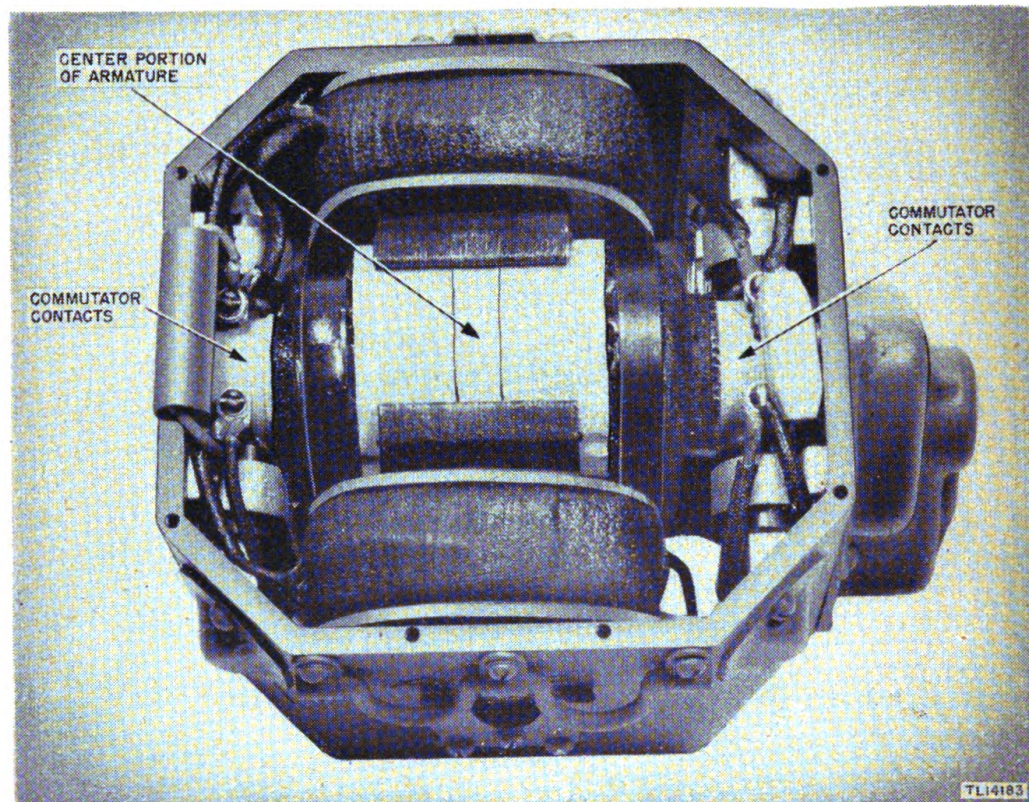

FIGURE 39.—Generator GN-44-()—view with bottom cover removed showing method of masking parts.
b. Disassembly.—(1) Remove the six screws holding the top cover of generator to case; remove the top cover†.
(2) Remove the seven screws holding the bottom cover of the generator to the case; remove the bottom cover†.
(3) Clean all dirt, oil, dust, rust, grease, fungus, etc., from the equipment to be processed.
c. Masking.—Cover the following parts with masking tape as shown in figures 39 and 40.
(1) Commutator contacts (fig. 39).
(2) Center portion of armature (fig. 39).